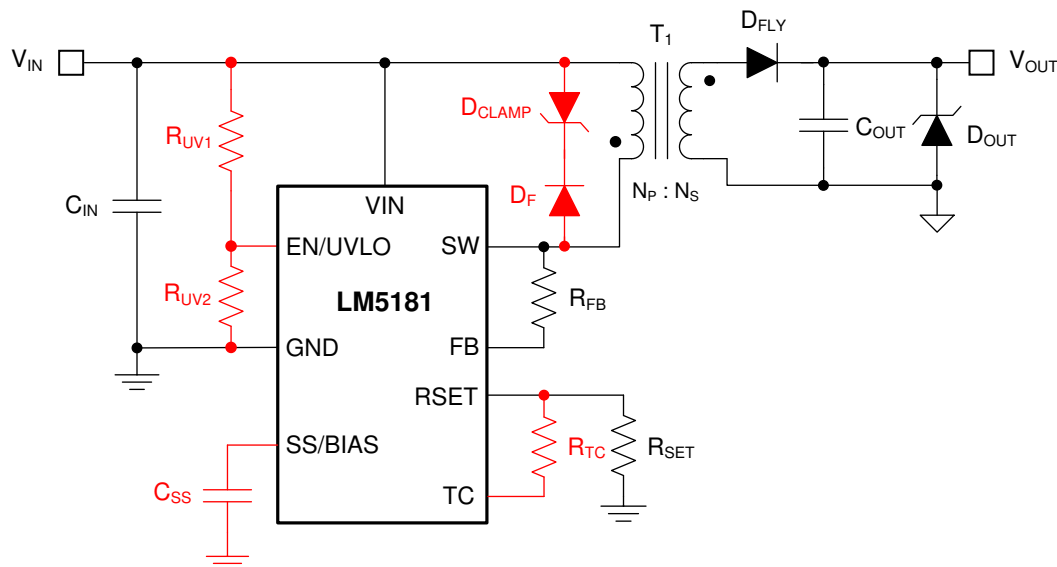

图 8-1. LM5181 Flyback Converter Schematic (Optional Components in Red)
Figure 8-1 shows a typical schematic of the LM5181 PSR flyback circuit. Components denoted in red are optional depending on the application requirements.
To minimize output voltage regulation error, the LM5181 senses the reflected secondary voltage when the secondary current reaches zero. The feedback (FB) resistor, which is connected between SW and FB as shown in 图 8-1, is determined using 方程式 8.